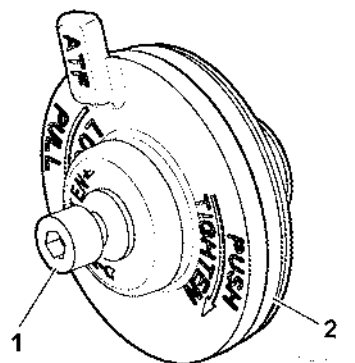

Figure 15
6. If needed, loosen the cap screw (1, Figure 15) by few turns for easier removal of O-ring (2, Figure 15).